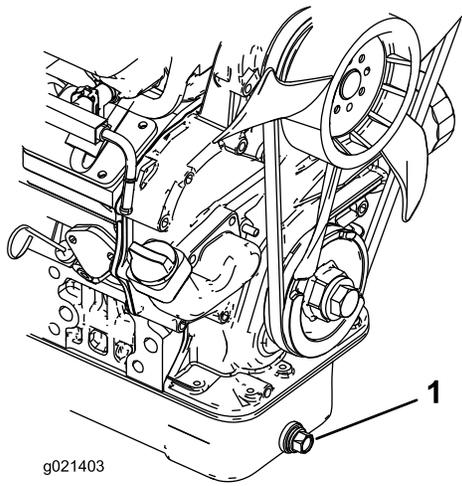

Figure 46
1. Remove the drain plug (Figure 46) and let oil flow into a drain pan. When the oil stops flowing, install the drain plug.